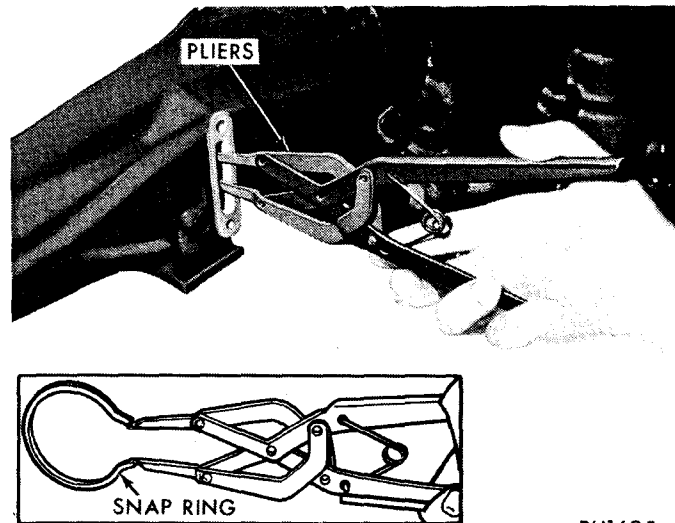

Fig. 23—Removing or Installing Extension Housing
(5) Remove access plate and gasket from extension housing. Spread large snap ring from output shaft bearing (Fig. 23).
(1) Place a new extension housing gasket on the transmission case. Position output shaft bearing retaining snap ring in extension housing. Slide extension housing on output shaft guiding the parking lock control rod knob past the parking sprag. While spreading large snap ring in housing (Fig. 23), carefully tap housing into place, then release the snap ring. Make sure snap ring is fully seated in bearing outer race ring groove.
(2) Install and tighten extension housing bolts to 24 foot-pounds.
(3) Install gasket and access plate on the extension housing.